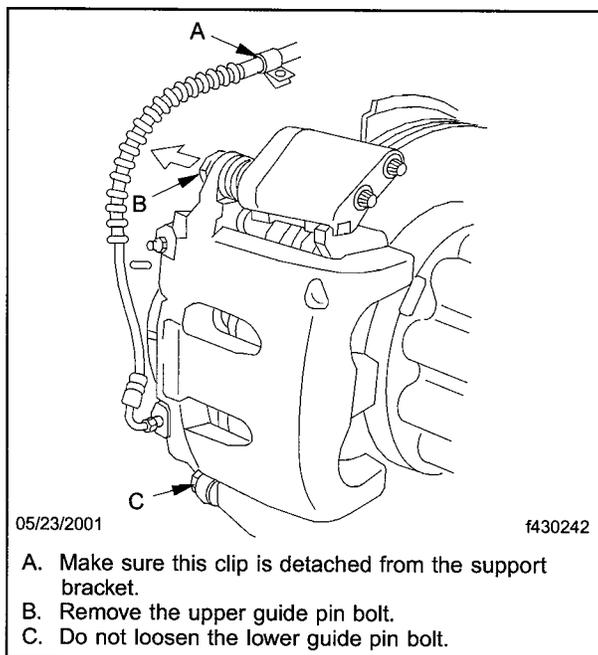

Fig. 3, Upper Guide Pin Mounting Bolt Removal
5. On front axles only, remove the brake line retaining clip from its support mounting. This will allow the brake line hose to hang free. See **Fig. 3**.
6. Remove the upper (top) guide pin bolt. See **Fig. 3**.